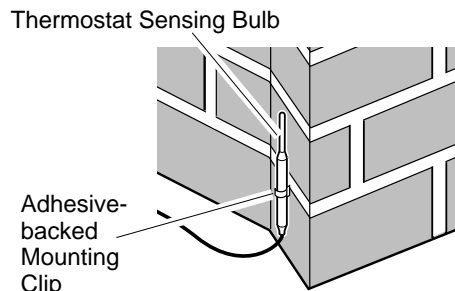

Figure 31 - Locating Thermostat Sensing Bulb on Masonry Fireplace
3. The thermostat sensing bulb may be located to the lower right front side of fireplace. Determine location of sensing bulb, but do not mount sensing bulb until step 4. If you have a masonry fireplace, see Figure 31 for location.